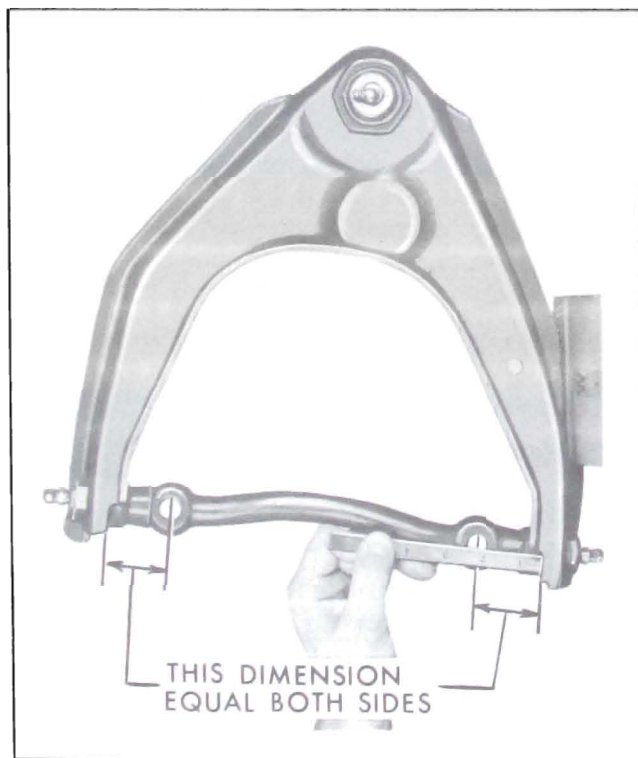

Figure 7-12—Upper Control Arm Shaft Position
4. Remove backing plate and hub assembly by (a) remove cotter pin and castellated nut from end of spindle, (b) two backing plate attaching bolts and nuts and, (c) anchor bolt. There is no need to disconnect the brake hose from the wheel cylinder if the backing plate and hub assembly with hose attached is carefully wired up out of the way. See Figure 7-12.
8. Rotate shaft to make distance between shaft bolt holes and arm equal both sides as nearly as possible. See Figure 7-12.